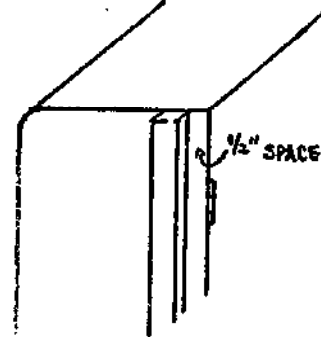

Figure 7
- 7: LEGS:** Cut two 78" lengths from the 2 x 4's and nail with 10-penny nails to the back 1 x 10's, 1/2" from the back edge. This allows the door to open out (Figure 7). Front legs are 11" long in the front, cut off at 60 degrees and nailed to the front angle of the 1 x 4. Notch 3/4" x 4" strip of the plywood to let 2 x 4 sit flush on 1 x 4 (A, Figure 8). Measure 11" for the front legs and cut at 60 degrees so the short edge is 11". Nail front legs to the 1 x 4 with 10-penny nails.